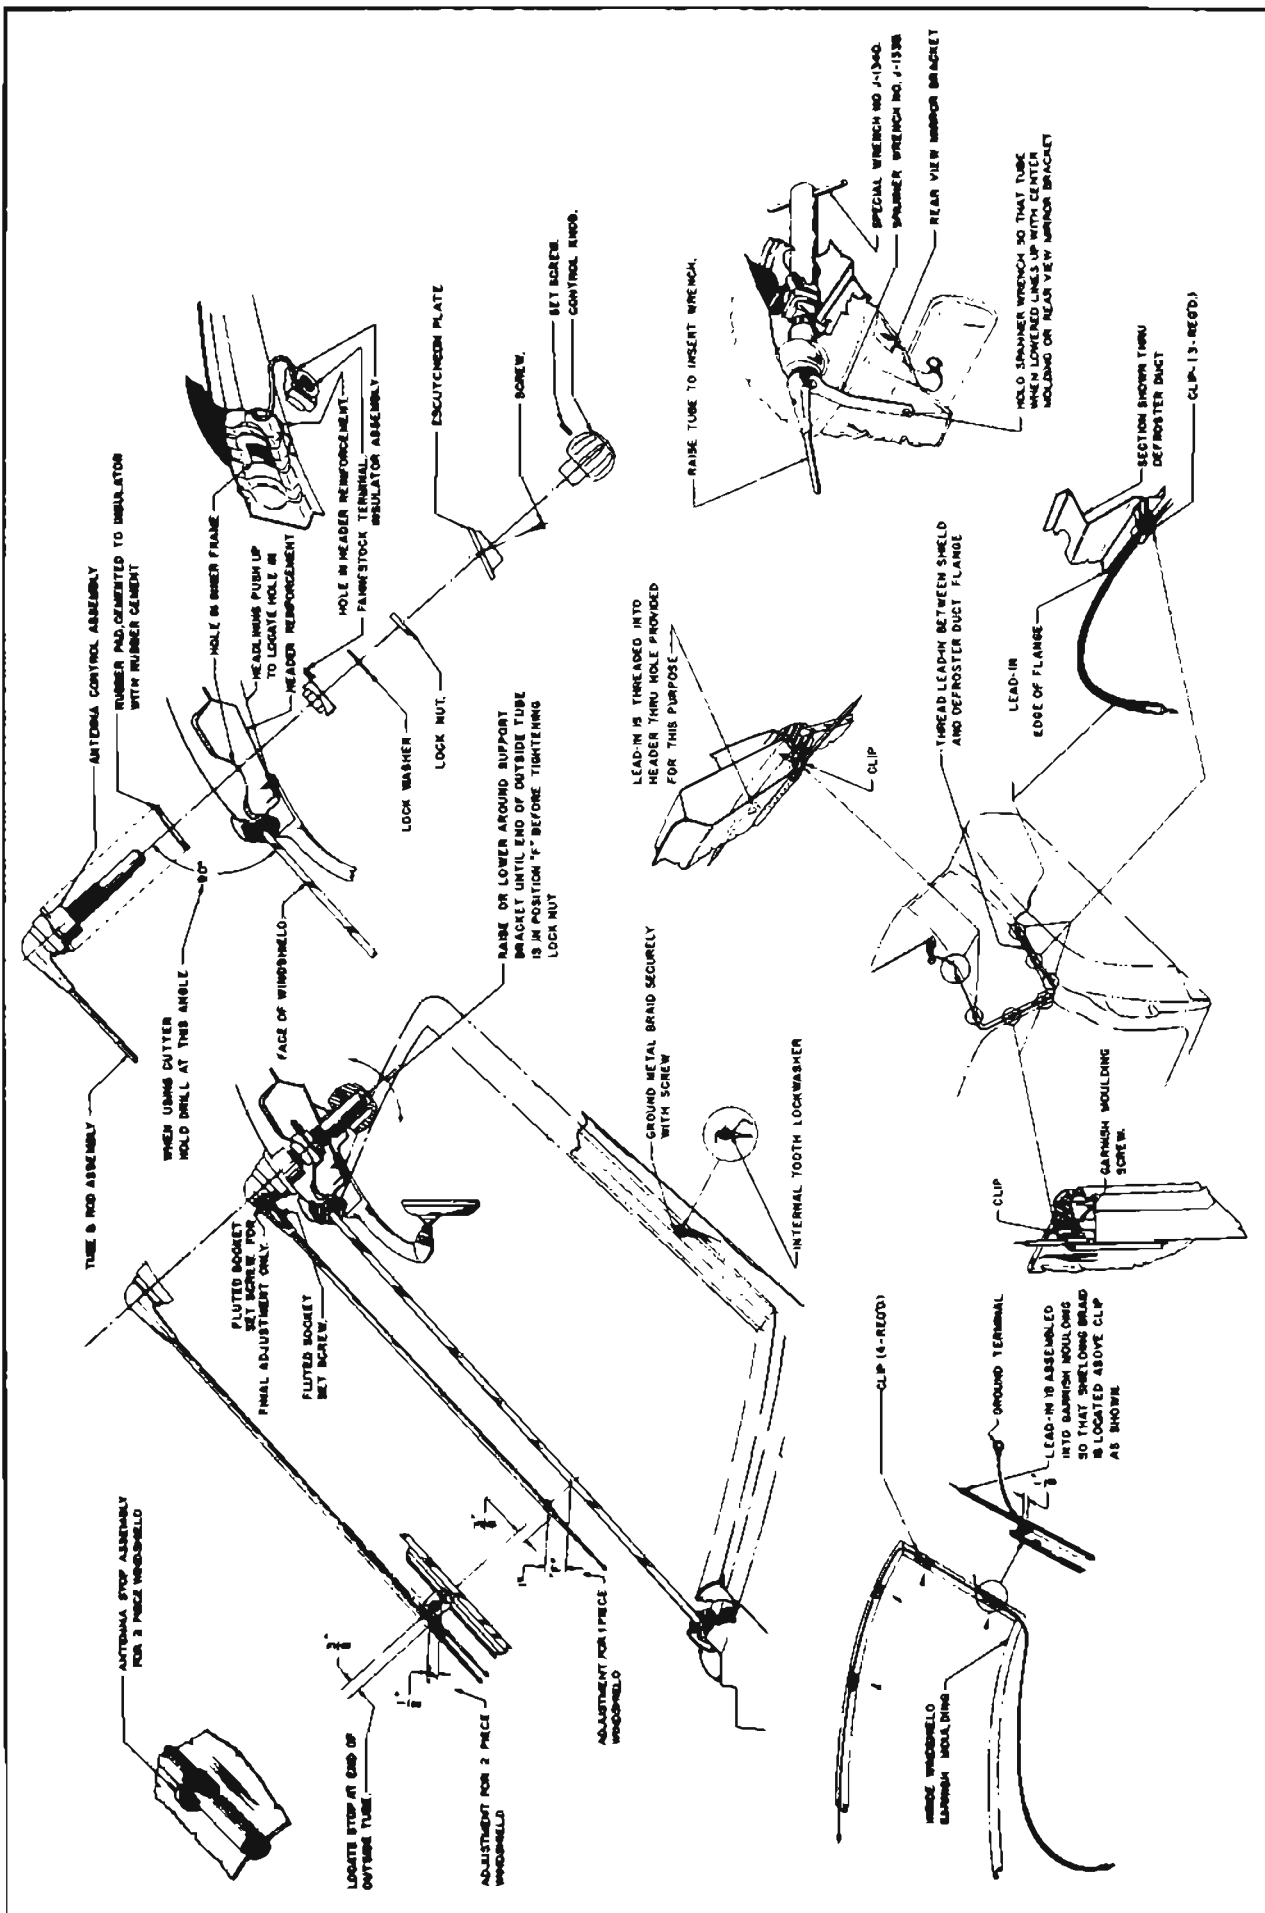

Figure 11-11—Antenna Installation Details—Closed Bodies and Model 45R
6. Use the $\frac{1}{8}$ " hole to pilot a $1\frac{1}{8}$ " circular cutter and cut hole through roof panel while holding cutter at 90° to windshield glass. See figure 11-11. Remove masking tape from roof panel.
8. With shielding braid located above the lower right clip, attach cable ground terminal to body pillar where a screw hole is provided. Be sure to clean paint from pillar at this point and attach the terminal with a 10-32 x $\frac{5}{16}$ " tapping screw, with internal-tooth lockwasher placed between terminal and pillar. See figure 11-11.
10. Remove glove box and attach lead-in cable to flange of defroster duct, using three clips. See figure 11-11. *Make certain that cable does not contact windshield drive cables, then reinstall glove box.*
tube so that the hole in tube aligns with screw hole in control then install and tighten set screw securely. Make sure that rubber pad is securely cemented to control insulator with rubber cement. See figure 11-11.
12. Insert bare end of lead-in wire into the Fahnestock terminal on the hard rubber insulator. Push the slack wire up into the hole, insert insulator up through the hole in the header reinforcement, and locate in the square hole of inner frame. The Fahnestock terminal must be located in the upper *left* corner. See figure 11-11.
14. Place tube in the "down" position and raise or lower the inside of the antenna control assembly until the end of the outside tube is $\frac{1}{2}$ " from top of windshield division molding on jobs with two-piece windshield, or 1" from glass on jobs with one-piece windshield. See figure 11-11.
15. Using special Spanner Wrench J 1339 the man on outside must hold the antenna body so that tube, when lowered, will align with the windshield division molding on jobs having two-piece windshield or the rear view mirror bracket on jobs having one-piece windshield. Securely tighten the nut on inside, using Wrench J 1340. See figure 11-11.
17. On two-piece windshield job, install antenna stop on windshield division molding in location shown in figure 11-11, and tighten screws evenly.